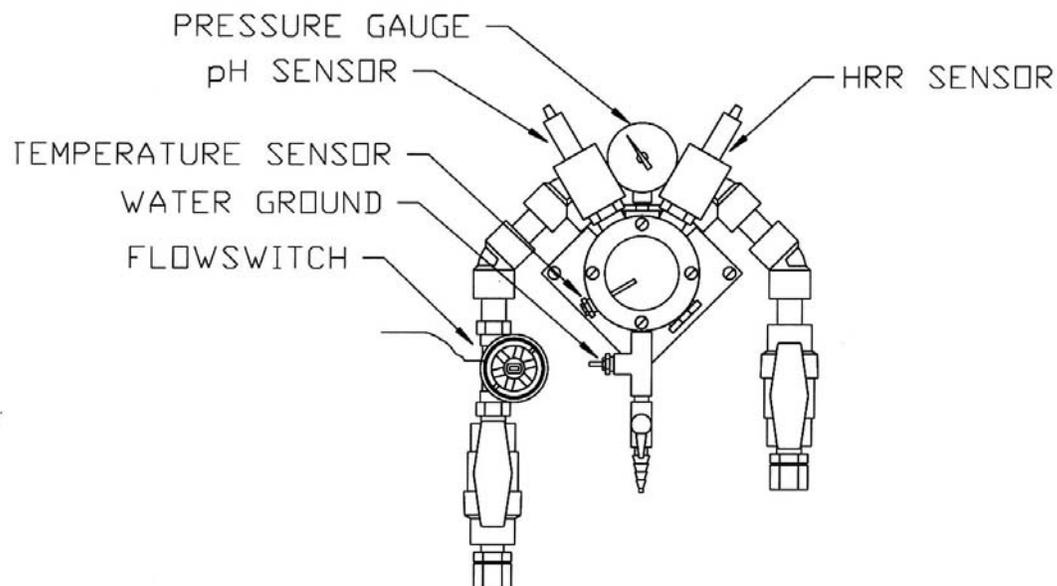

Fig 2.1
- Install the Paddlewheel Flow Switch in the sample stream. Make sure you only wrap the male fitting three times with Teflon[®] tape so as not to risk breaking the female fitting on the Paddlewheel Flow Switch. (Fig 2.1)